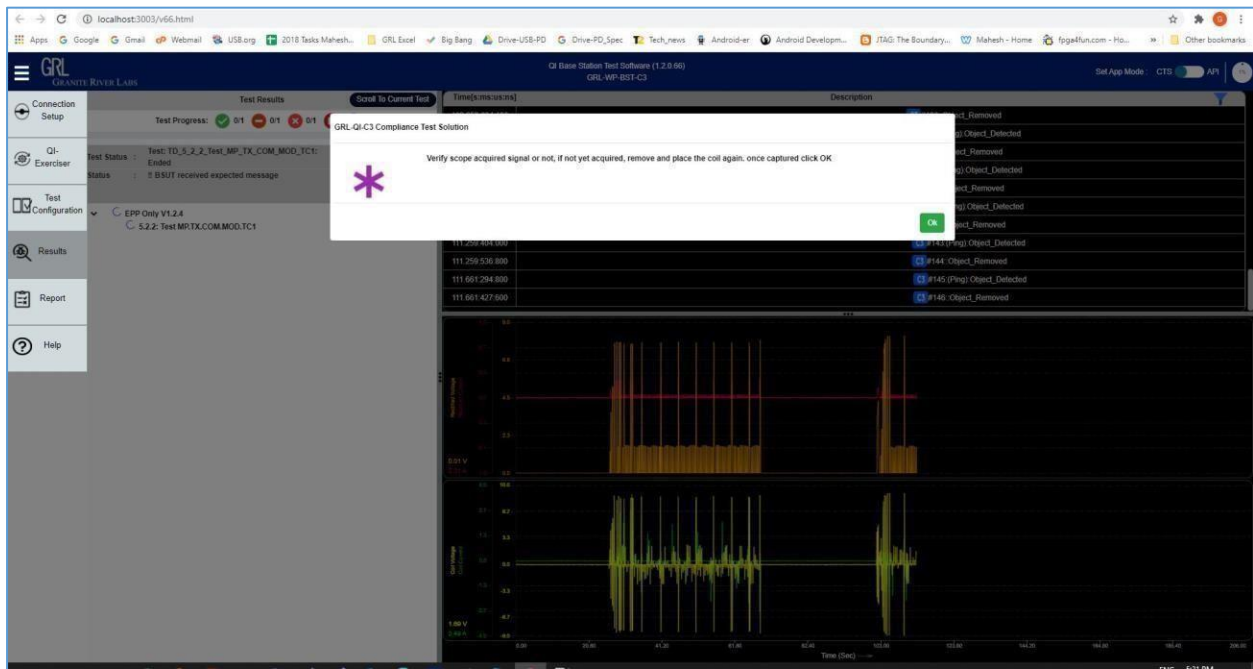

FIGURE 5.3: VERIFY SCOPE SIGNAL ACQUISITION DIALOG
7. Once a certain test sequence is run and completed, verify whether or not the signal has been acquired by the Scope. If the Scope signal has been acquired, click on the **Ok** button in the pop-up dialog as shown in Figure 5.3. If the Scope signal has not been acquired, remove and place the coil again.